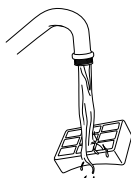

Fig. 24
- 4 Wash the filter under the tap using lukewarm water with the dirty side face down until the water runs clear. **(Fig. 24)**